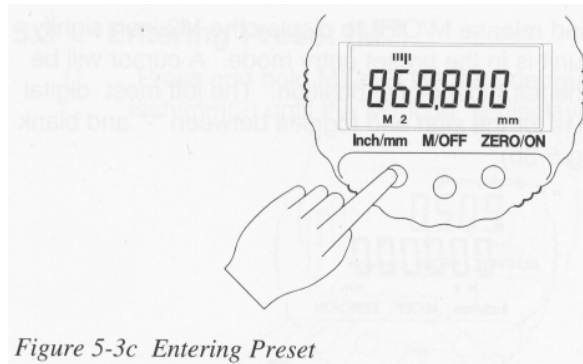

Figure 5-3c Entering Preset
- 3) Press and release in/mm to move the cursor to the position above the digital character to be changed. Continuous use of inch/mm will cause the cursor to move one space at a time to the right and then begin again at the left most position. (Fig.5-3c)